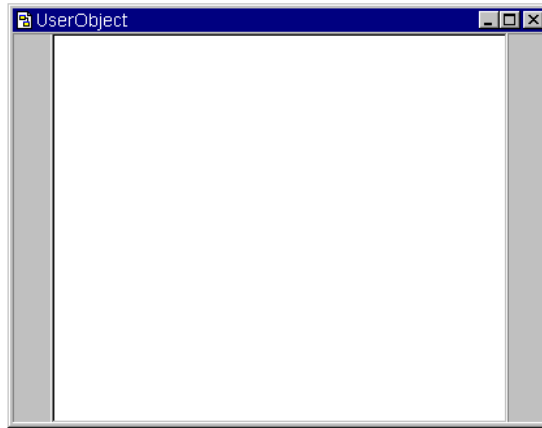

Figure 2-1. UserObject Window
- Select `Device` ⇒ `UserObject` from the menu bar to bring up an empty `UserObject` icon in the Main window, and add objects to it. If you double-click the `UserObject` icon, it is displayed in open view, as shown in Figure 2-1.